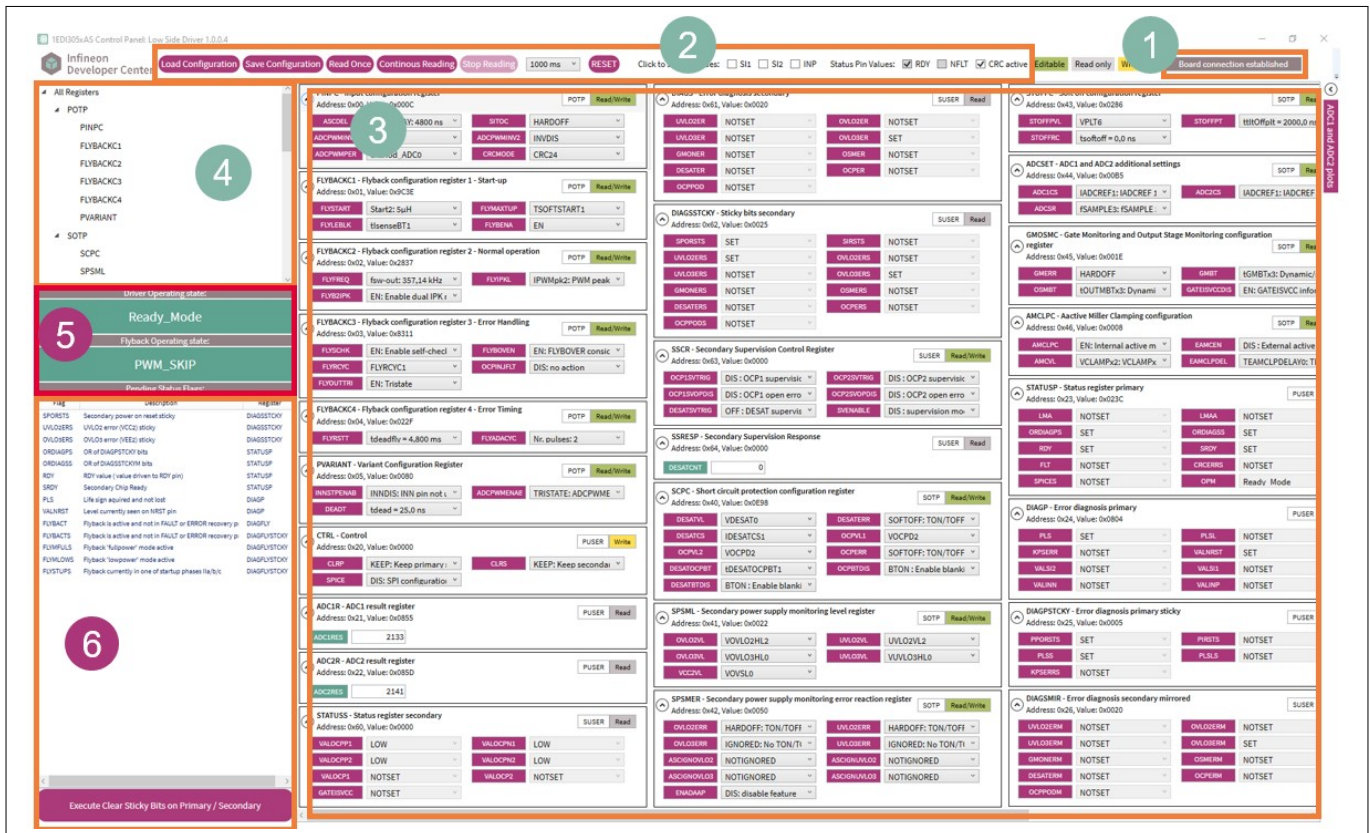

Figure 24 GUI start menu
- Start the GUI by executing “1EDI305x_WPF_Control_Panel” from your start menu. See Figure 24